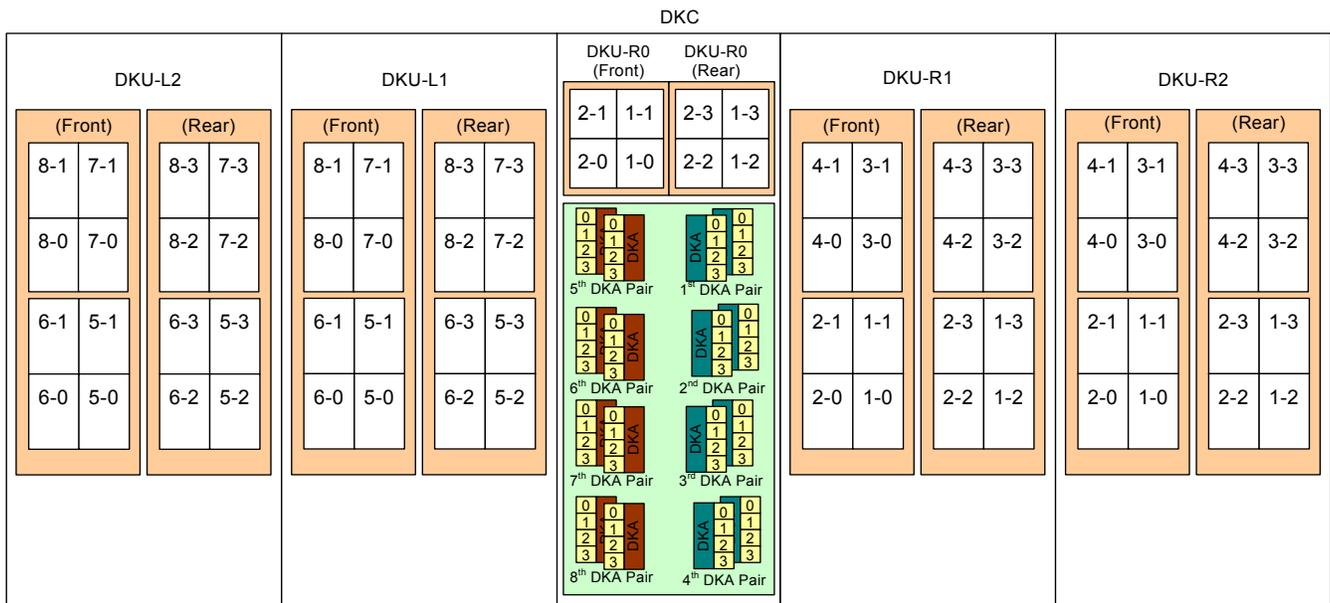

Fig. 1.1.2.3.3-3 Connection order of HDU for 8 DKA pairs model
1. CM capacity and necessary battery number are shown in the table below. Fig. 1.1.2.4-1 and Fig. 1.1.2.4-2 are block diagrams.